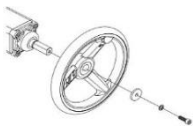

Figure 1
- Slide fixing screw through washers and handwheel and secure them to override shaft as shown in the figure below (figure 1).